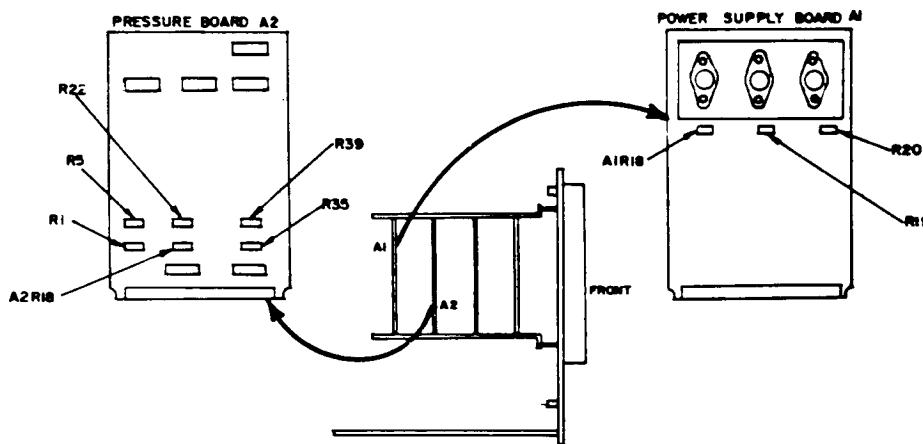

Figure 4. Simulator unit - internal left view.
(1) Set autotransformer (A1), dc power supply (A2), and precision oscillator (A6) power to OFF.
(2) Remove pressure board A2 (fig. 4) and reinstall, using extender board (B4).
(3) Set autotransformer dc power supply, and precision oscillator power to ON.
(4) Adjust R5 (fig. 4) for a 3.591-V ac indication on digital voltmeter (R).
(5) Turn ENGINE OIL PRESS NO. 1 variable control fully ccw.
(6) Adjust R1 (fig. 4) for a 3.591-V ac indication on digital voltmeter (R).
- (7) Adjust R22 (fig. 4) for a 3.591-V ac indication on digital voltmeter (R).
- (8) Turn ENGINE OIL PRESS NO. 2 variable control fully ccw.
- (9) Adjust A2R18 (fig. 4) for a 3.591V ac indication on digital voltmeter (R).
- (1) Set autotransformer (A1), dc power supply (A2), and precision oscillator (A6) power to OFF.
- (2) Remove pressure board A2 (fig. 4) and reinstall, using extender board (B4).
- (3) Set autotransformer, dc power supply, and precision oscillator power to ON.
- (4) Adjust R39 (fig. 4) for a 3.591-V ac indication on digital voltmeter (R).
- (5) Turn XMSN OIL PRESS variable control fully ccw.
- (6) Adjust R35 (fig. 4) for a 3.591-V ac indication on digital voltmeter (R).
- (7) Repeat **a**(2) through (6) above and adjust for best in-tolerance condition.